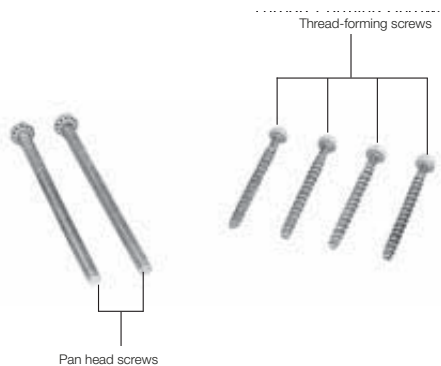

Figure 2: cover mounting hardware
1. Make sure that the circuit breaker frame is suitable for the intended installation by comparing nameplate data with existing ratings and system requirements. Inspect the circuit breaker for completeness, and check for damage before mounting. Uninstalled cover mounting hardware is supplied in a plastic bag with the circuit breaker frame (see Figure 2).